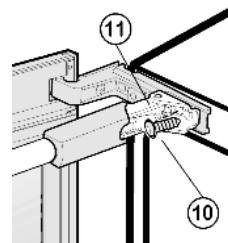

Fig. 16
- ▶ Then angle the soft stop mechanism in such a way that the front screw Fig. 16 (10) can be screwed in. Firmly tighten the screw (with 4 Nm).